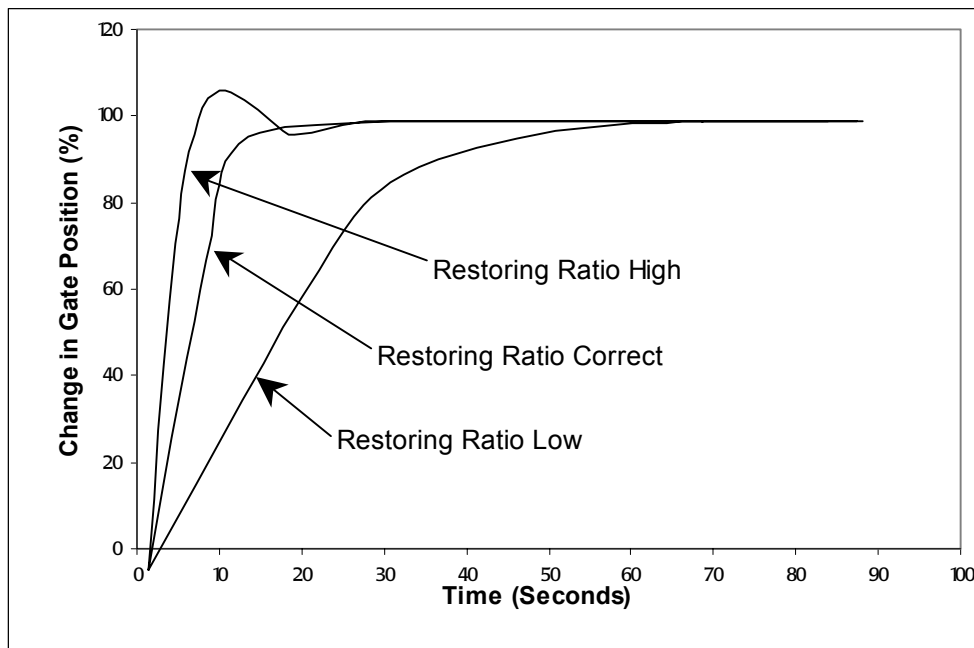

Figure 13.—Governor response with dashpot disabled.
3. Adjust the restoring ratio on the pilot valve restoring lever on Woodward governors or the relay valve feedback sensitivity thumbscrew on Pelton governors to obtain a fast, stable response with no overshoot (photographs 19 and 20). Look at the curve of gate position in both directions (figure 13). The restoring ratio is the ratio of main valve movement to pilot valve movement. Increasing the restoring ratio allows the main valve to travel farther and increases the over-shoot. Label the strip chart with the restoring ratio setting during each test.